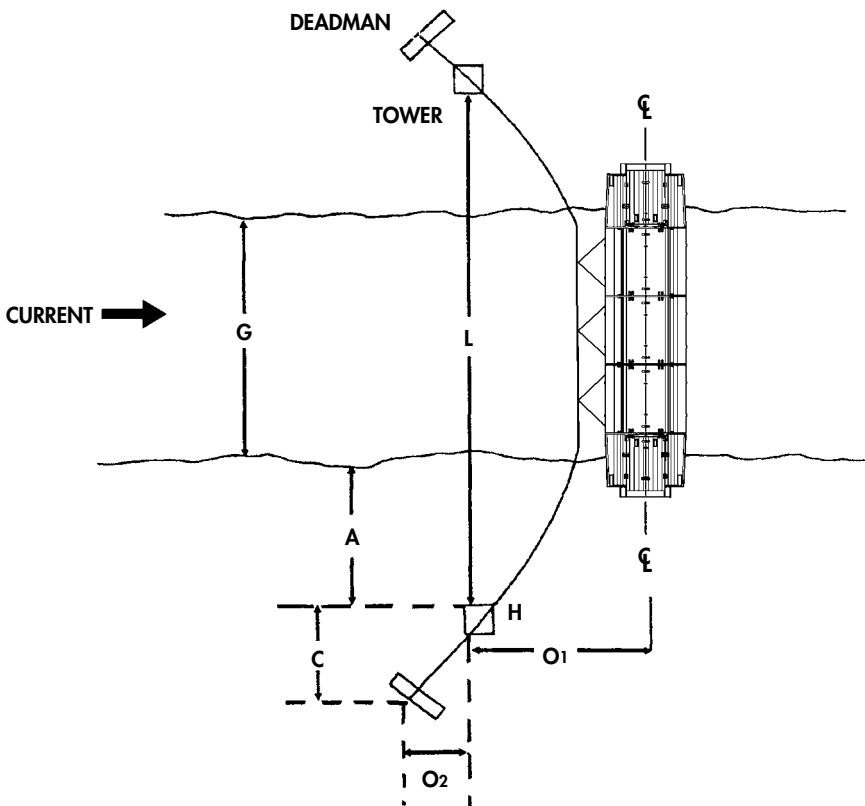

Figure 8. Typical Overhead Cable System.
a. Overhead cable. An overhead cable system consists of one or more tower supported cables spanning the river parallel to the bridge. (Refer to figures 8 and 9). Each end of the overhead cable is secured to the shore, preferably through the use of deadmen. Bridle lines are used to connect each bay of bridge to the overhead cable. The cable functions like the cable used in a suspension bridge, except that in its final working position the cable is inclined toward the bridge because of the force of the current on the bridge.